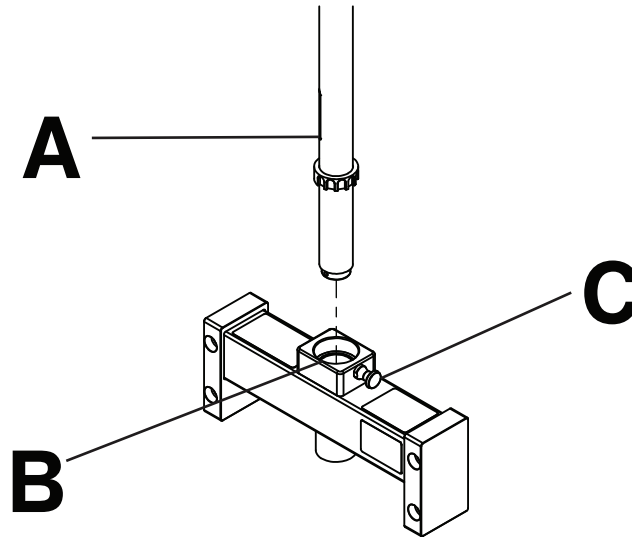

Figure 22 – Attaching or removing the patient helper
1. Insert the lifting pole (A) into the mounting bracket (B) (Figure 22).
2. Rotate the lifting pole in the mounting bracket until the patient helper knob (C) locks in position (Figure 22).